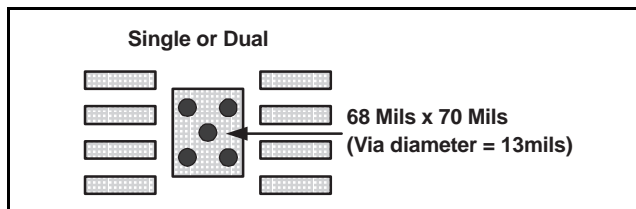

Figure 90. PowerPAD PCB Etch and Via Pattern
1. Prepare the PCB with a top side etch pattern as shown in Figure 90. There should be etch for the leads as well as etch for the thermal pad.